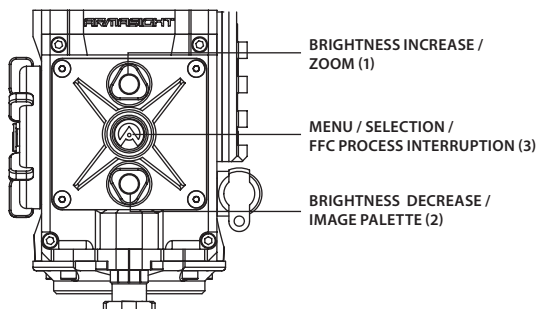

FIGURE 3-17. SETTING BUTTONS
6. Using the buttons on the control panel (Figure 3-17), configure the Prometheus to adapt it to your situation.